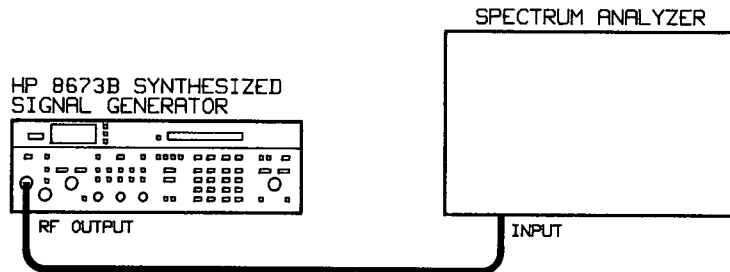

Figure 4-4. On/Off Ratio Test Setup
1. Connect equipment as shown in Figure 4-4.